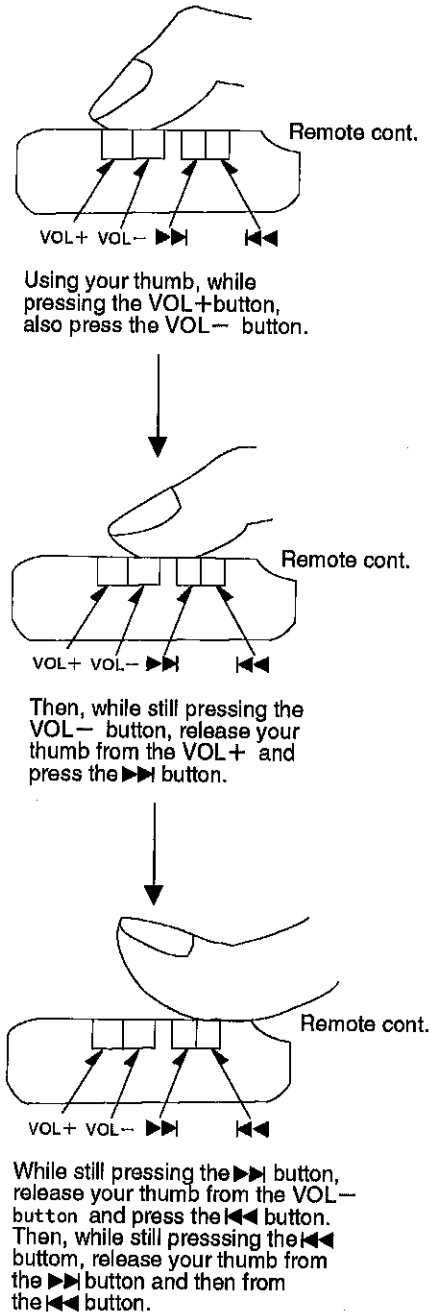

Fig.7
- While still pressing the **▶▶▶** button, release your thumb from the VOL- button and press the **◀◀◀** button. Then, while still pressing the **◀◀◀** button, release your thumb from the **▶▶▶** button and then from the **◀◀◀** button. (a-c are shown in Fig.7)